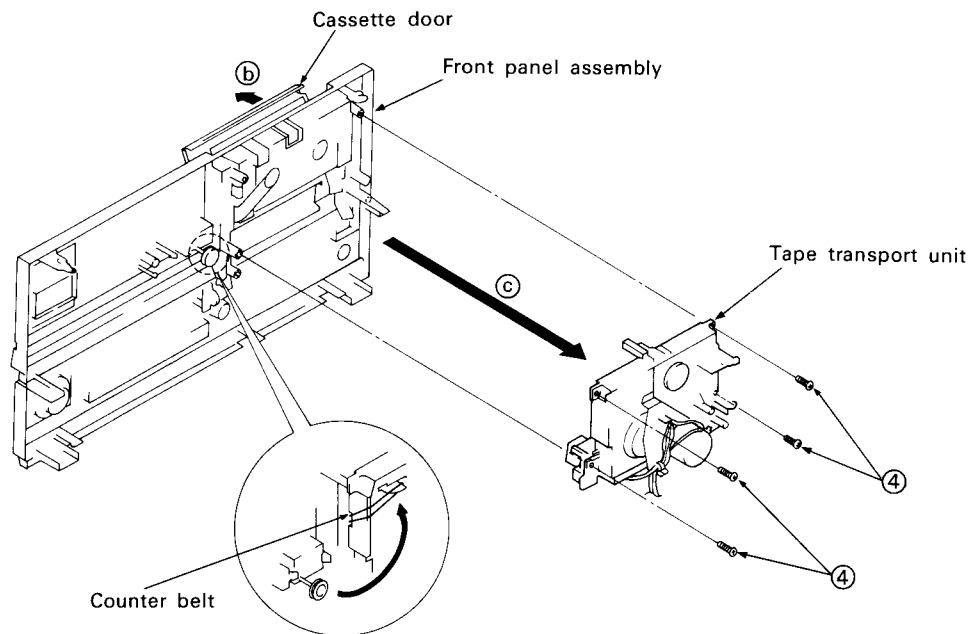

Fig. 3-3
7. Open the Cassette door. (See Fig. 3-3)
8. Remove 4 pieces of screw ④.